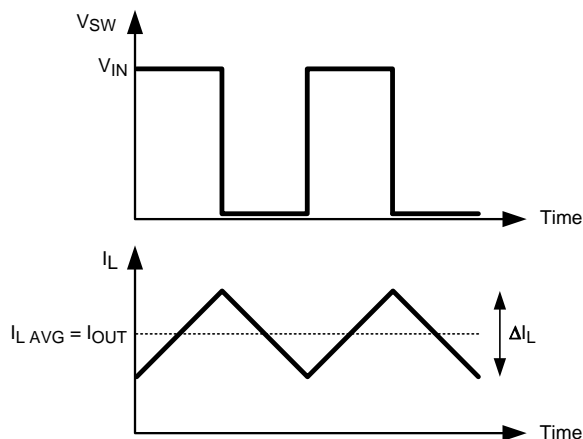

Figure 27. Switch And Inductor Current Waveforms
The inductor (L) used in the application influences the ripple current and the efficiency of the system. The first selection criteria is to define a ripple current,  $\Delta I_L$ . In a buck converter, it is typically selected to run between 20% to 30% of the maximum output current. Figure 27 shows the ripple current in a standard buck converter operating in continuous conduction mode. Larger ripple current results in a smaller inductance value, which will lead to a lower series resistance in the inductor, and improved efficiency. However, larger ripple current will also cause the device to operate in discontinuous conduction mode at a higher average output current.